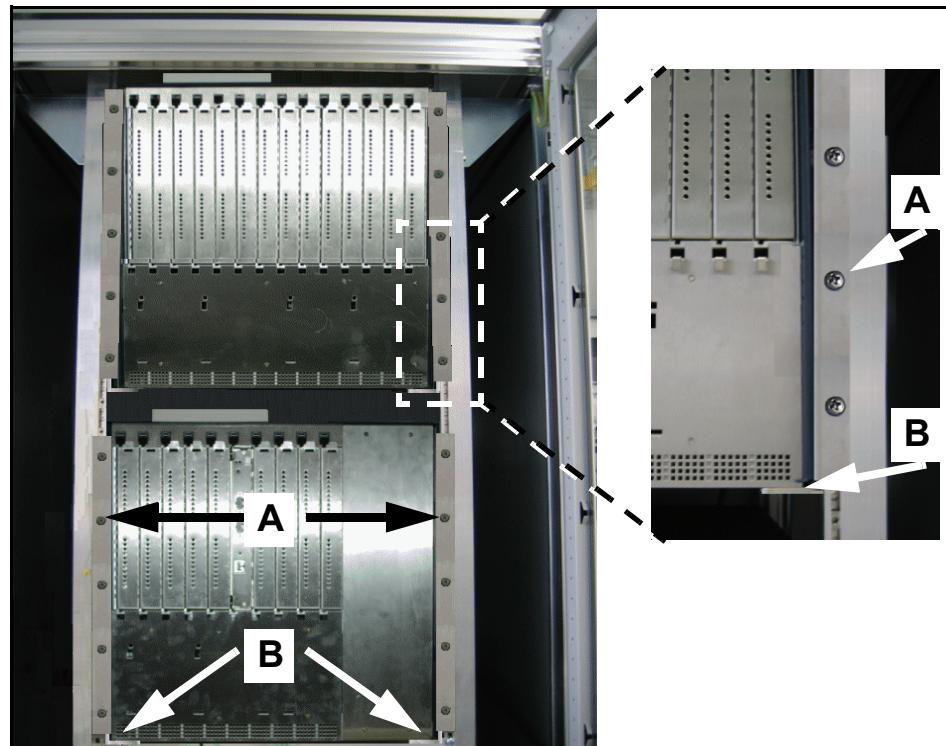

Figure 8 Bearing elbow and support bracket for AP 3700 in the 19-inch cabinet
2. Secure both support brackets (A, in Figure 8) to the sides of the system box with four of the screws supplied.
3. Secure a right and left bearing elbow (B, in Figure 8) in the 19-inch cabinet with the screws provided.
4. Lift the system cabinet into the 19-inch cabinet and sit the cabinet on the two bearing elbows (B, in Figure 8). Push the cabinet into the 19-inch cabinet until the front edge of the cabinet is flush with the front of the 19-inch frame.
5. Secure the system cabinet to the frame of the 19-inch cabinet by means of the two support brackets (A, in Figure 8) and the screws provided. Make sure the minimum play specified for the system cabinets is provided (see Section 5.8.3, "AP 3700 Configuration Rules and Examples with 19" Cabinets").